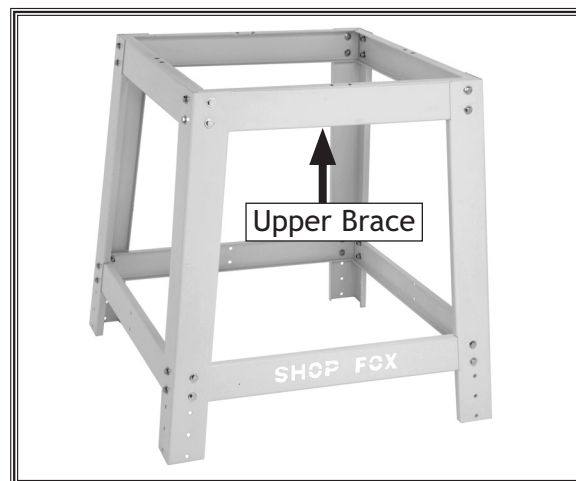

Figure 14. Upper braces attached to stand assembly, Model W1810.
2. Connect the upper braces to the upper stand legs, using (16) $\frac{3}{8}$ "-16 x $\frac{3}{4}$ " hex bolts, (32) $\frac{3}{8}$ " flat washers, and (16) $\frac{3}{8}$ "-16 lock nuts, as shown in **Figure 14**.